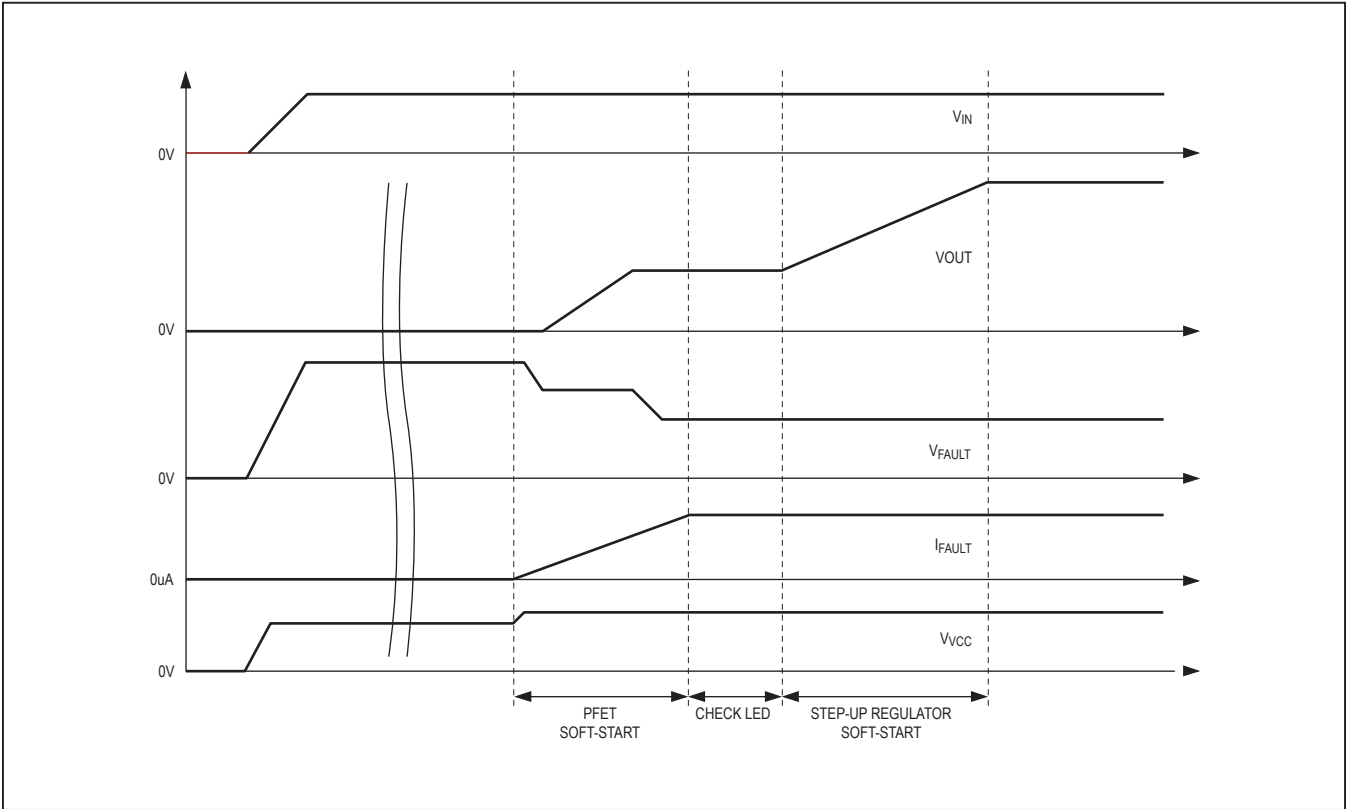

Figure 3. Startup Timing Sequence
0.8mA (typ, 0.4mA min) current source during 1ms (typ). If some FB_ voltage is lower than 1.2V (max), the string is considered to be unused. Therefore, when a string is not in use, it should be connected to SGND. All other strings with FB_ higher than 1.2V (max) are detected as in use. After the LED string diagnostic phases are finished, the step-up regulator starts. The total startup time is less than 10ms. Figure 3 shows the sequence.